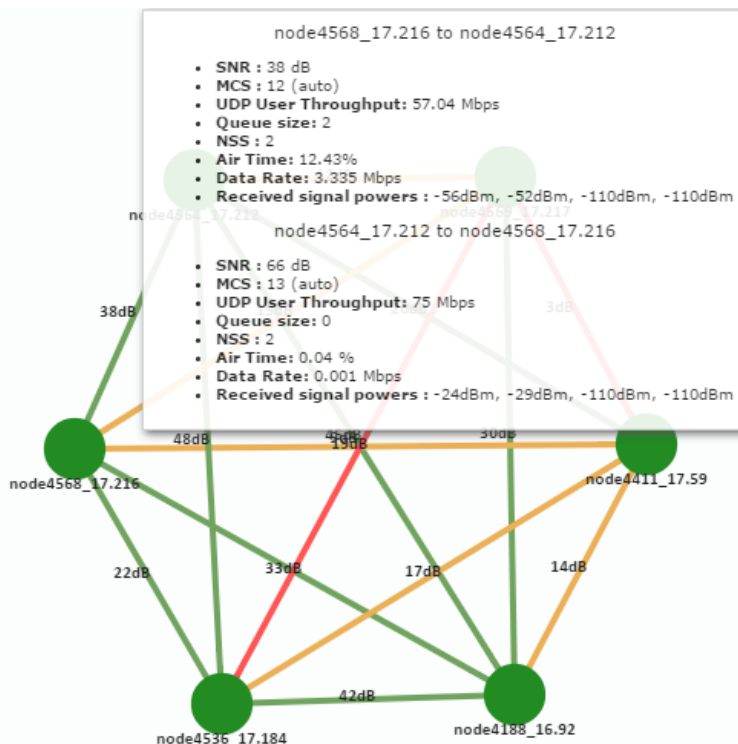

Figure 42 Link Characteristics
- **Link Characteristics** – By simply rolling the mouse over any link in the network, users can view key operating characteristics of that link. **Figure 42 Link Characteristics** shows an example of this for the link between ‘node4568’ and ‘node4564’. The characteristics shown are: